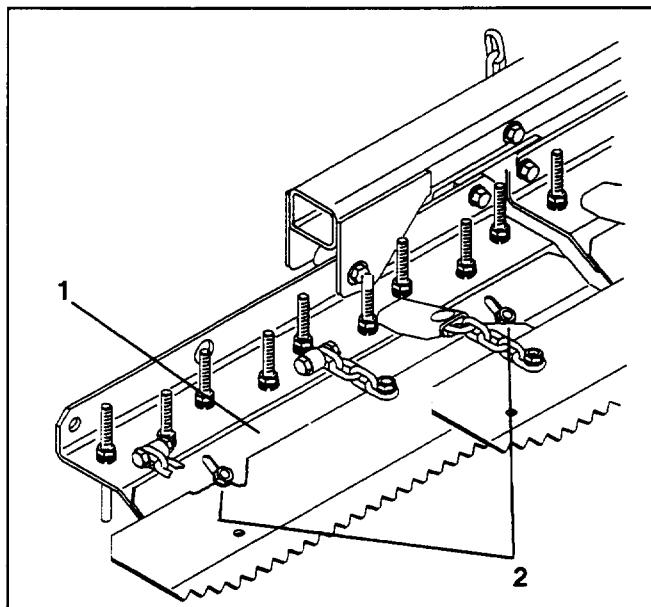

Figure 8
1. Loosen trowel mounting screws, move trowel up or down to desired position and tighten screws (Fig. 8).